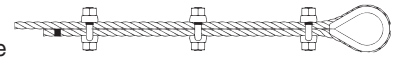

Figure 3
3. When three or more additional clips equally between first two – take up rope slack – use torque wrench to tighten nuts on each clip evenly, alternating from one nut to the other until reaching recommended torque (See Figure 3).